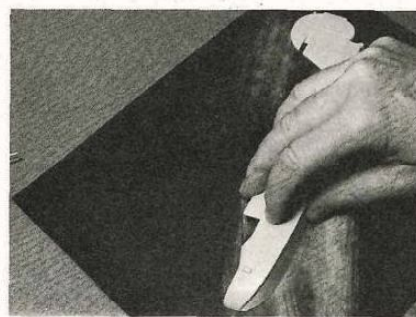

Fig. 1. Before assembly, Roscoe sanded all joints on a sheet of 400-grit sandpaper laid flat on the workbench. This ensured that little putty would be required.
**Detailing the hull and the interior.** I first sanded all of the hull joints on a piece of 400-grit sandpaper laid flat on the workbench, Fig. 1; this ensured little putty would be needed later. Then I sawed off the vertical stabilizer and the rudder; they are too thick and the fillet